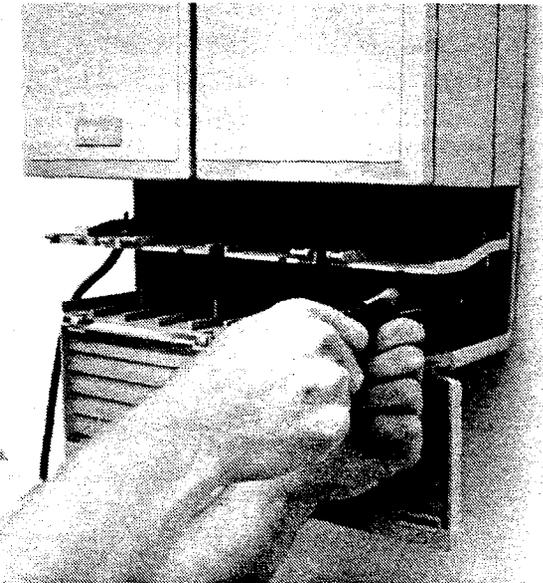

Figure 3.6 - Cable trough installation
- Attach cable trough(s) to the appropriate module(s) as shown in Figure 3.6.
5. Fasten the bottom of the KSU, TM and SM with 38 mm (1½ inch) long screws through the holes provided in the lower tray of the cable trough as shown in Figure 3.6. The KSU cable trough needs four screws; the TM and SM need only two screws each.